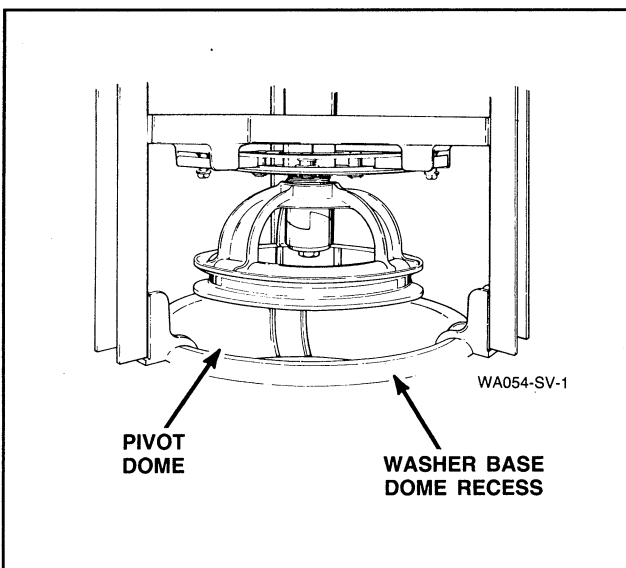

Figure 41
- Carefully place the tub module back into washer making sure the pivot dome is positioned properly in dome recess of the washer base, *Figure 41*.